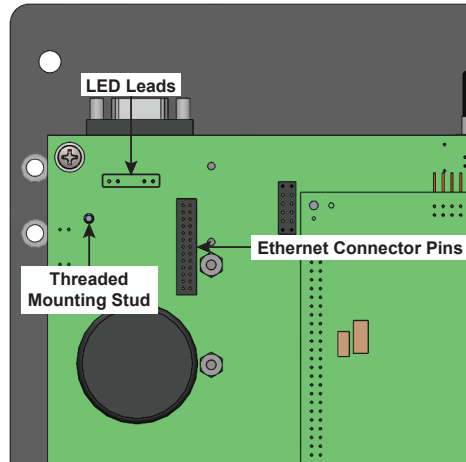
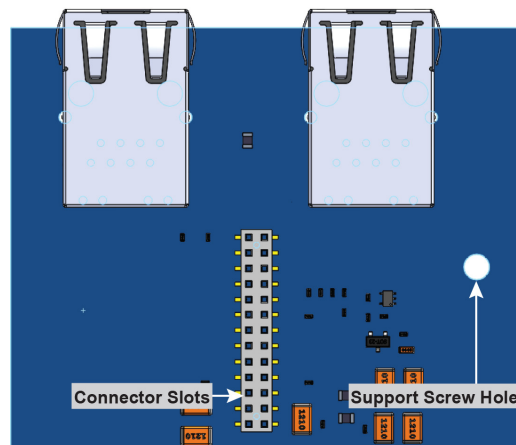
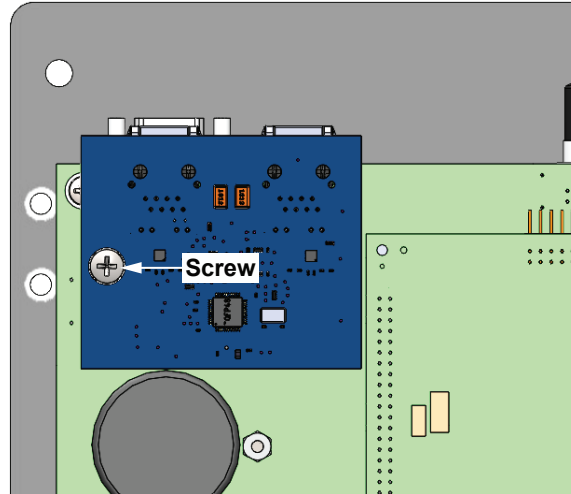

Figure 3-2 Main PCB, Upper-Left Corner
Figure 3-3 Bottom of Dual-Ethernet RJ-45 Board, Connector Orientation
Figure 3-4 Main PCB, Dual-Ethernet RJ-45 Board Installed
1. Locate the Ethernet connector pins and threaded mounting stud (Figure 3-2) on the upper left-hand corner of the main PCB.
3. Observing the orientation of the connector slots (Figure 3-3) on the Ethernet board, mount the RJ-45 board onto the Ethernet connector pins (Figure 3-2) of the main PCB.
■ **NOTE:** Verify that the RJ-45 connector on the Ethernet board does not contact the LED leads (Figure 3-2) protruding from the main PCB. If the LED leads contact the RJ-45 connector, perform the following:
4. Install one 4-40 x 1/4 screw into the standoff through the Ethernet board support screw hole (Figure 3-3). Figure 3-4 shows the Ethernet board properly mounted.